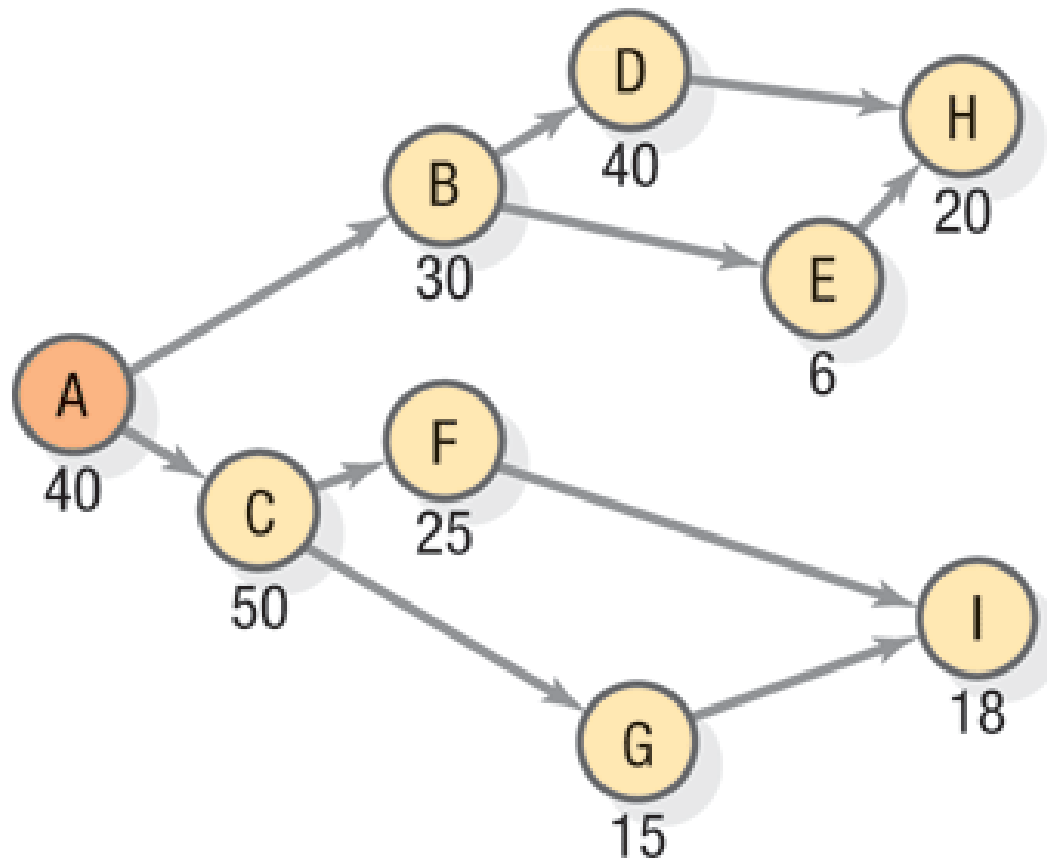

Figure 5.5
Most followers	When picking the next work element to assign to a station being created, choose the element that has the most followers (due to precedence requirements). In Figure 5.5, item C has three followers (F, G, and I) whereas item D has only one follower (H). This rule seeks to maintain flexibility so that good choices remain for creating the last few workstations at the end of the line.